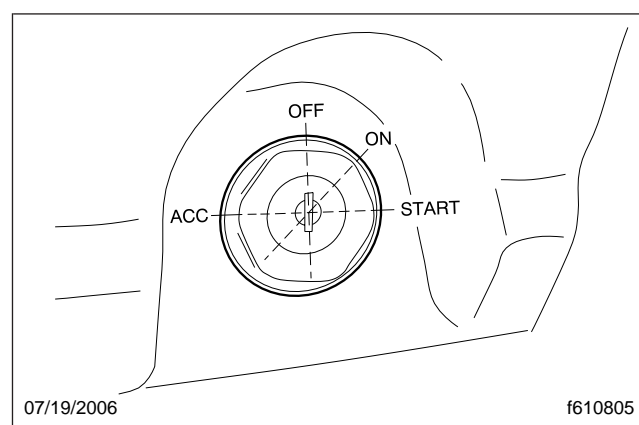

Fig. 7.14, Ignition Switch
4. Turn the ignition switch to ON. See **Fig. 7.14**. The following actions should occur: